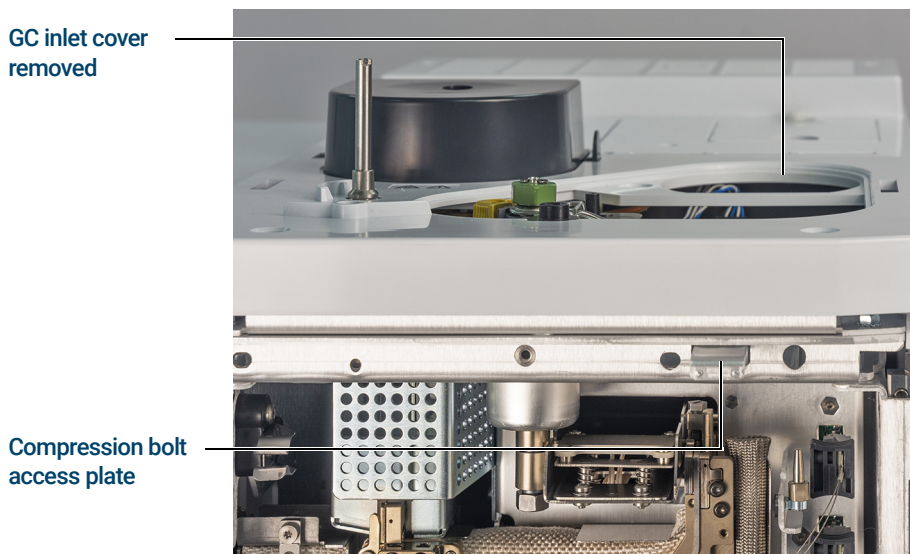

Figure 11. GC inlet cover and compression bolt access plate
- 6 Remove the inlet cover. (See Figure 11.)